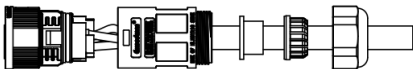

Figure 6-11-4 Crimp the wire
- 4) Crimp the wire, corresponding to the color of the core wire and the position of the terminal hole, with a screw torque of $0.8 \pm 0.1\text{N}\cdot\text{m}$, as shown in Figure 6-11-4.